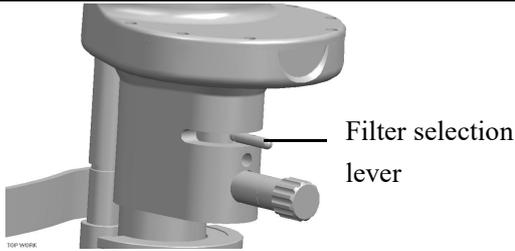

Figure 3.4.6
6. Select the color filter. Rotate the filter selector lever in the horizontal direction to switch four different color filters into the light path. Heat-absorbing filters are often used to make the patient feel more comfortable. Other filters should be placed in the position of the heat-absorbing filter after use. (See Figure 3.4.6).